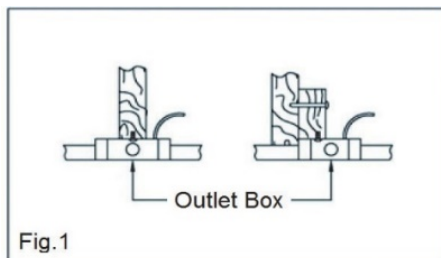

Fig.1
3. Figures 1, 2 and 3 are examples of different ways to mount the outlet box in different situations.